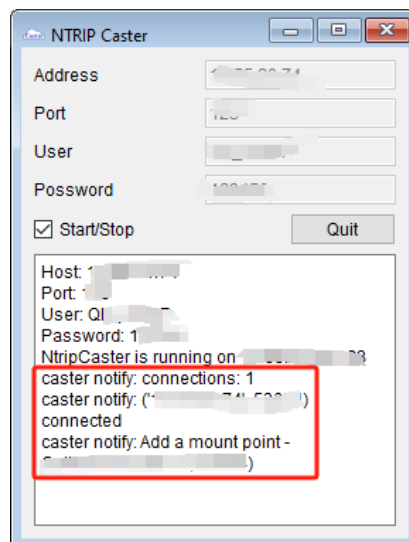

Figure 13: Successful Connection of NTRIP Server to NTRIP Caster
Step 3 Click  to open the NTRIP Server and enter the IP address, port, user and password of the NTRIP Caster to be connected and the mount point. Check the checkbox next to **“Start/Stop”** to start NTRIP Server. If the NTRIP Server successfully connects to the NTRIP Caster, you can see the connection information in the NTRIP Caster, as shown in Figure 13: Successful Connection of NTRIP Server to NTRIP Caster.